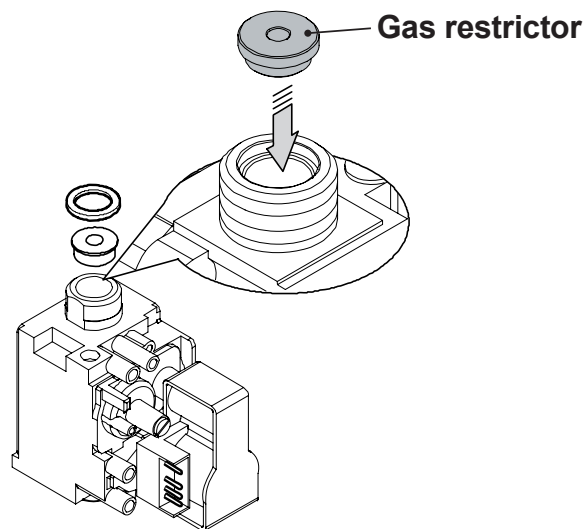

Fig. 8.2
- Carry out gas conversion by correctly replacing the gas restrictor (Fig. 8.2), referring to the "Technical Data" section page 28 (Activ A Plus 16S), page 30 (Activ A Plus 25S).